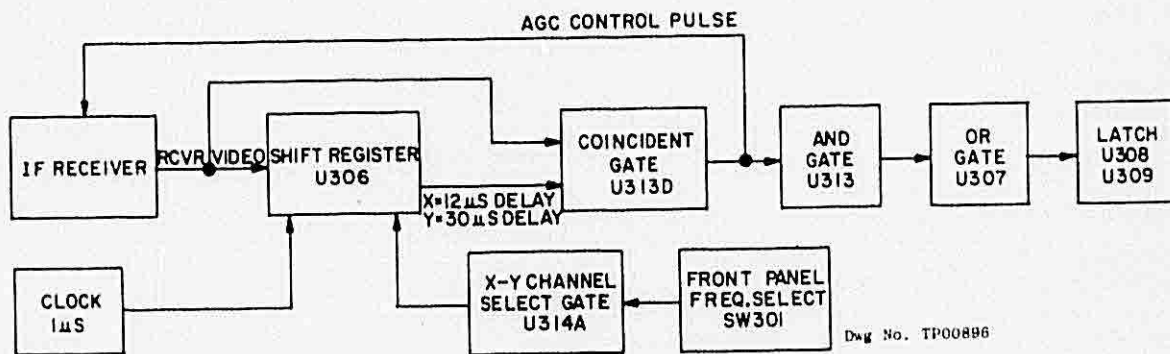

FIGURE 3-9. DECODER BLOCK DIAGRAM
3.8.4.2 Theory (Refer to Figure 3-9 and Figure 6-2)
The Decoder is comprised of a shift register (delay line) U306, Coincident AND gate U313D, and X-Y channel select inverter U314A as shown in Figure 3-9. The shift register functions as a digital delay line operating in a serial-in/serial-out mode with clock pulses shifting the data at a 1 microsecond rate. The length (delay) may be programmed to any number of bits between 1 and 64 by applying the proper logic 1 (high) or logic 0 (low) to the control inputs (L1, L2, L4, L8, L16, L32). (See Table 3.4)